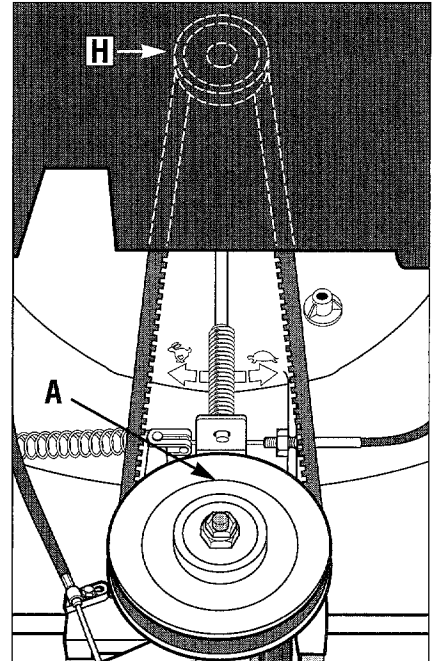

Figure 5-9: Press down on rear of pulley (A) to install or remove belt.
D. Remove tension on the drive belt by pressing down (hard) on the rear of the drive pulley (**A**, Figure 5-9). Slip the belt off the pulley.
H. Slip the drive belt off the engine crankshaft pulley (**H**, Figure 5-9) and remove the belt.
A. From the underside of the deck, install one end of the belt in the groove of the engine crankshaft pulley (**H**, Figure 5-9). Push the other end of the belt through the deck opening at the front of the engine and pull it toward the drive pulley (**A**, Figure 5-9).
C. Press down (hard) on the rear of the drive pulley (**A**, Figure 5-9) and slip the belt over the front of the pulley. Rotate the pulley in a clockwise direction to help seat the belt in the pulley groove.